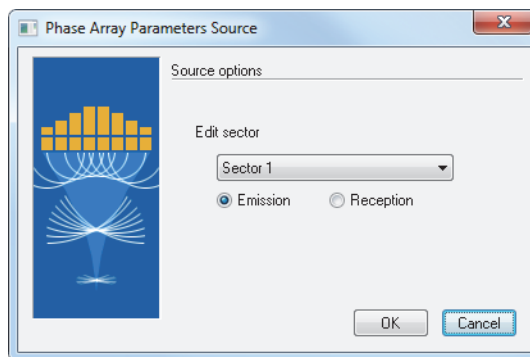

Figure 4-11 Phased Array Parameters Source dialog box
- a) In the **Phased Array Parameters Source** dialog box (Figure 4-11 on page 107), select the sector to be edited, and then select **Emission** and click **OK**.
- a) In the **Phased Array Parameters Source** dialog box (Figure 4-11 on page 107), select the sector to be edited and then select **Emission**, and then click **OK**.
- a) In the **Phased Array Parameters Source** dialog box (Figure 4-11 on page 107), select the sector to be edited, and then select **Reception** and click **OK**.